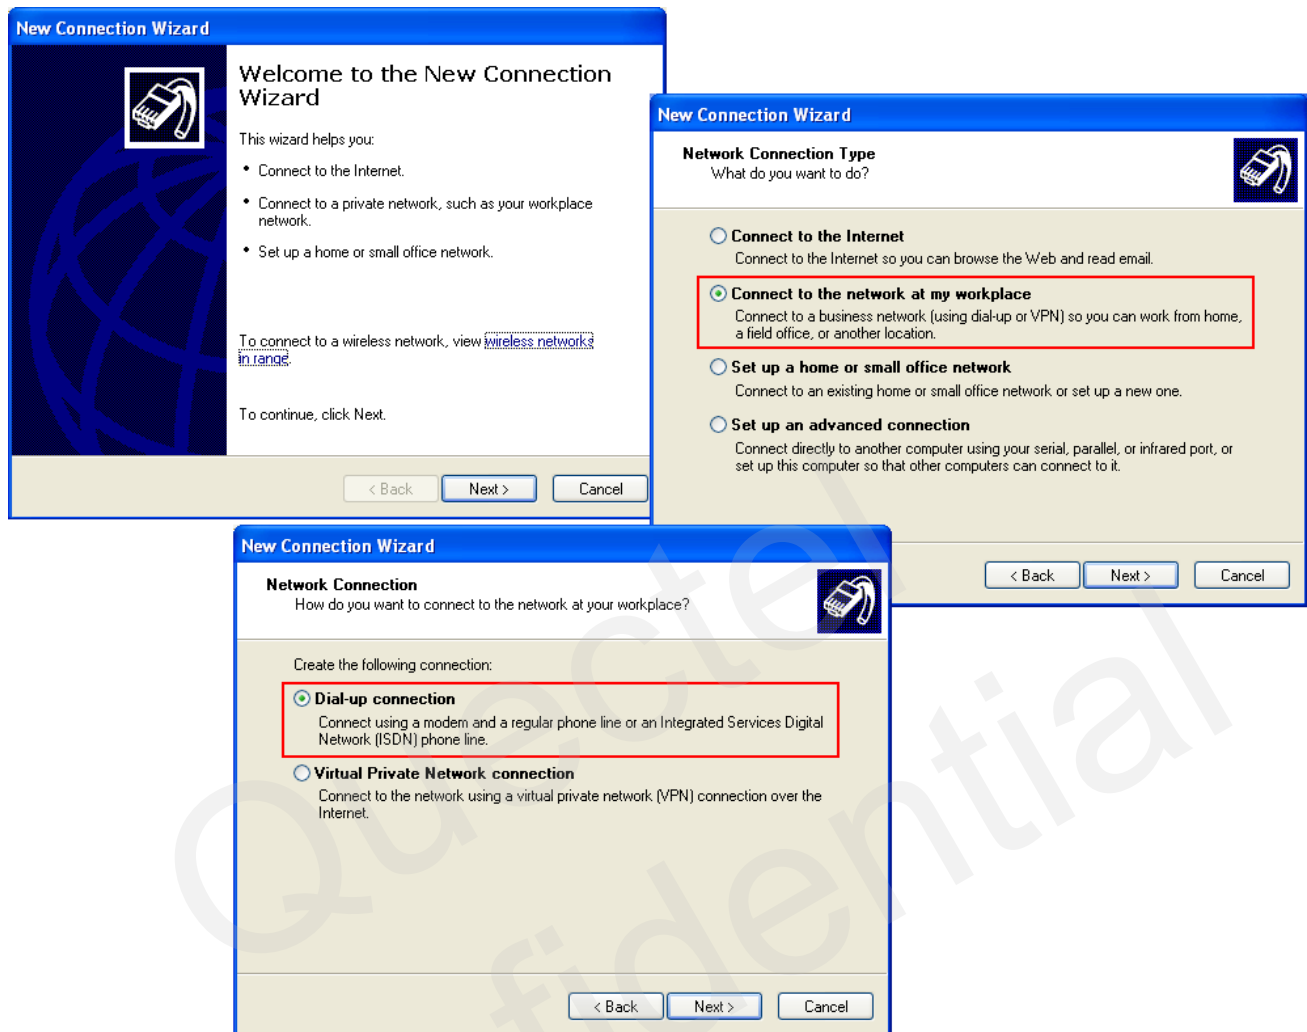

Figure 11: Set up the New Connection
2. Click “**Next**” button, choose “**Connect to the network at my workplace**”->“**Next**”, then select “**Dial-up connection**”. Refer to Figure 11.